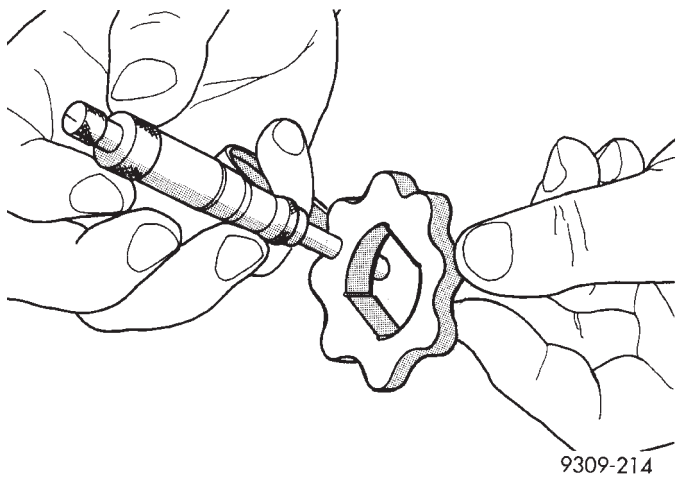

Fig. 95 Measuring Inner Rotor Thickness
(4) If inner rotor measures 9.40 mm (.370 inch.) or less replace inner rotor (Fig. 95).